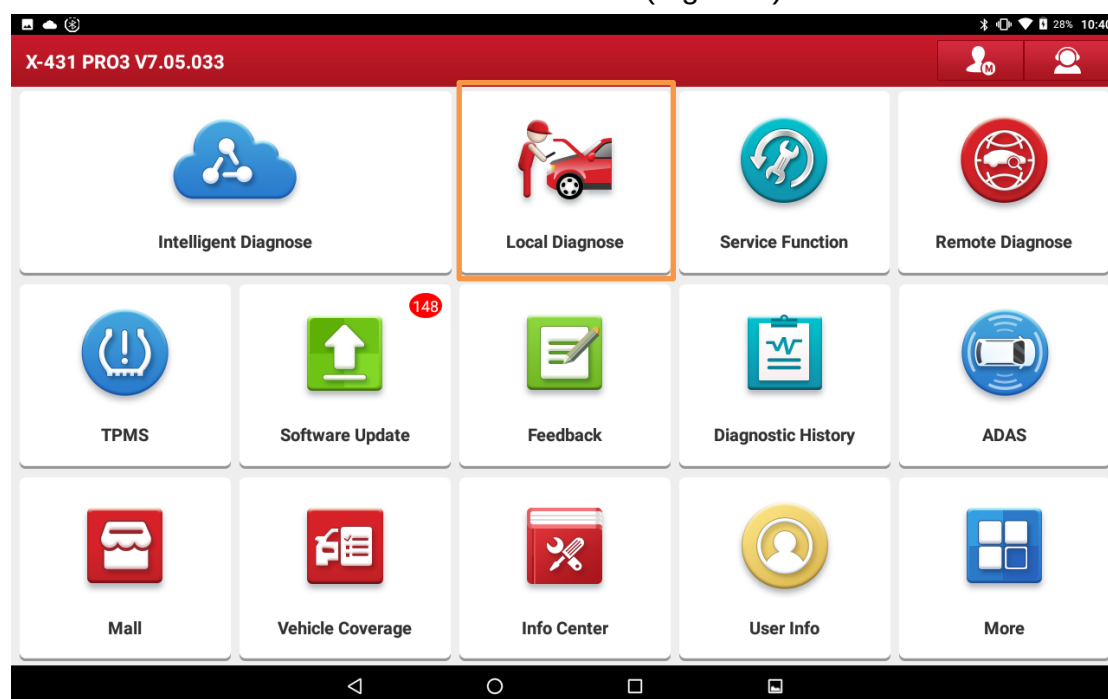
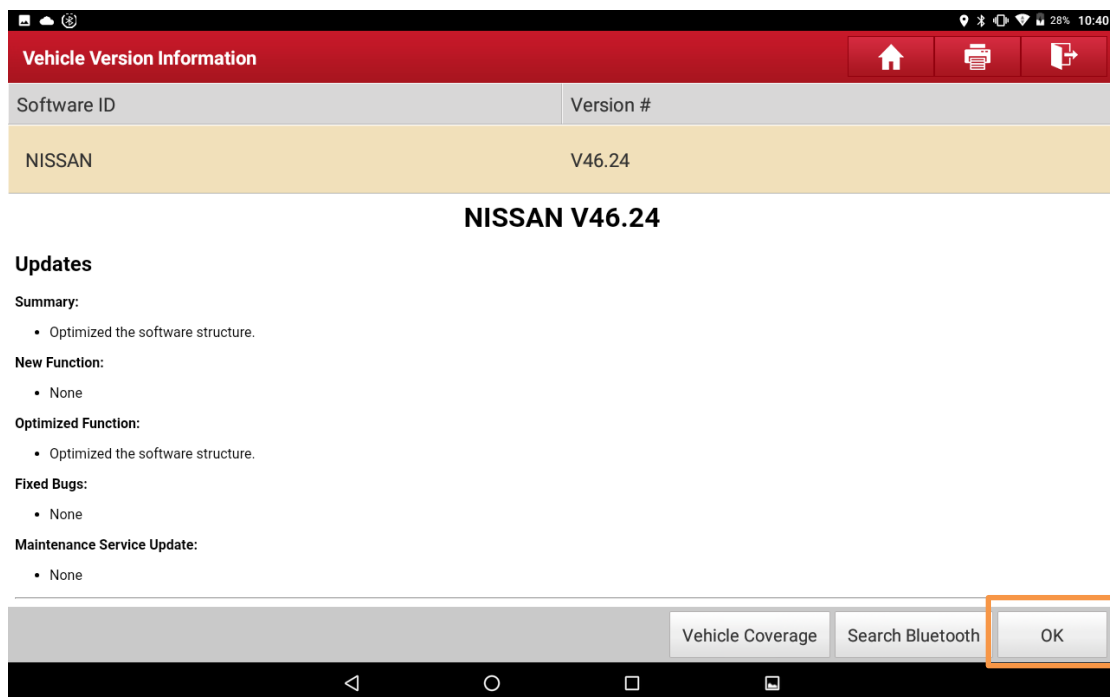
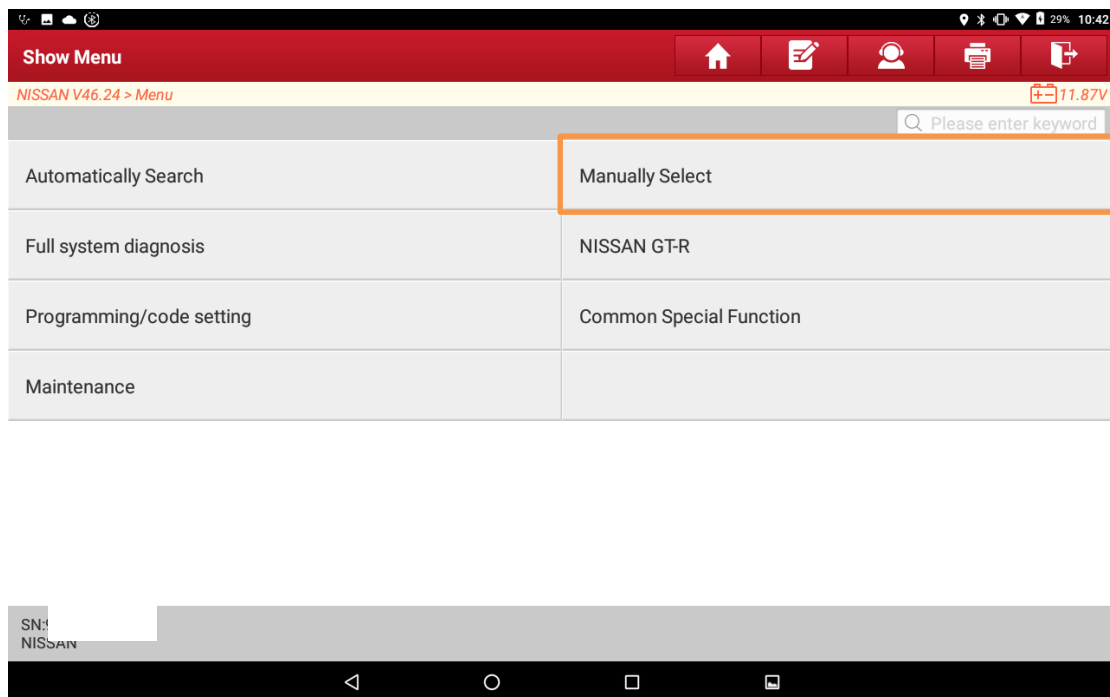

Figure 1
Figure 3
Figure 4
1. On an X-431 PRO3S+, follow the steps shown in Figure 1 to Figure 3: Choose [Local Diagnose], choose [NISSAN], and then click “OK” to enter the Nissan vehicle model menu interface (Figure 4).